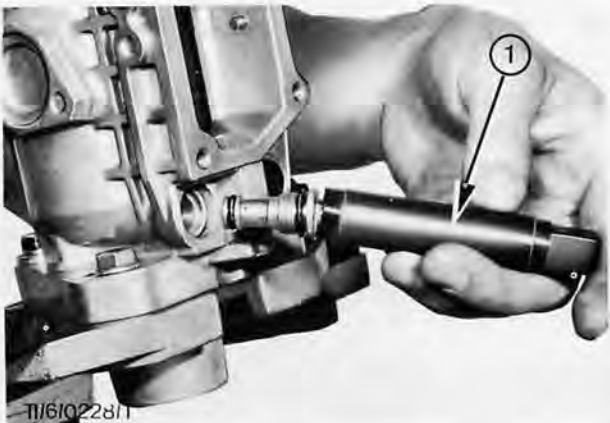

Fig. 27. Remove the pressure control valve
44. Using Special Tool No. KDEP 1086 remove the pressure control valve, Fig. 27.